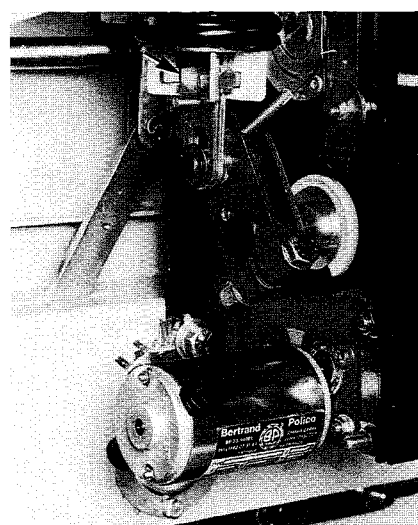

Figure 25: Spring guide lubrication
2. Lubricate the opening and closing spring guide slides (figure 25) using a low temperature grease such as Mobilgrease 28.